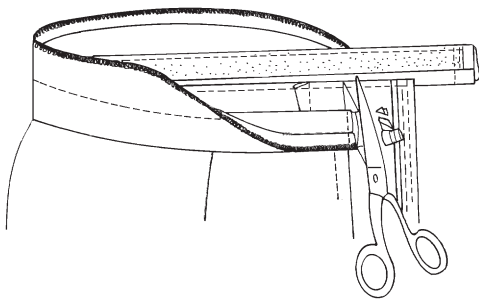

Fig. 12-5
7. Fold the waistband in half lengthwise with right sides together. Pin and stitch the seam at each end of the waistband. The stitching will be even with the folded edge of the zipper on the overlap. The underlap will be longer. Trim the seams to $\frac{1}{4}$ inch (6 mm). Trim the corners diagonally, being careful not to cut the stitching. (Fig. 12-5)